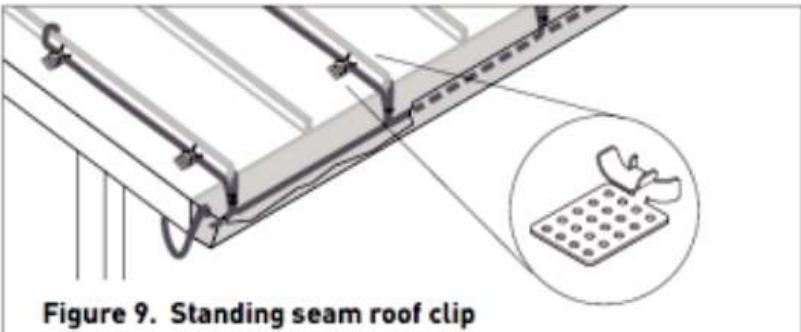

Figure 9. Standing seam roof clip
- Roof clips may be attached to a shake or shingle roof with nails or screws as shown in Figure 9. Roof clips may be attached to a metal roof using screw, nail or adhesive as shown in Figure 9. Reseal the nail or screw holes if necessary before installing heating cable in the clips.